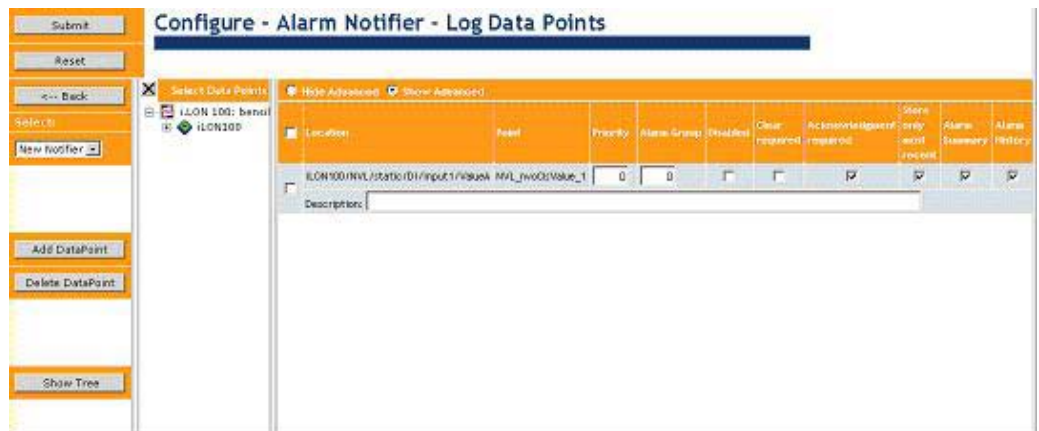

Figure 5.8 Configure – Alarm Notifier – Log Data Points Web Page
6. Select the input data points for the Alarm Notifier by clicking either of the two data point icons (), or by clicking **Log?**. The **Configure – Alarm Notifier – Log Data Points** Web page opens, as shown in Figure 5.8.